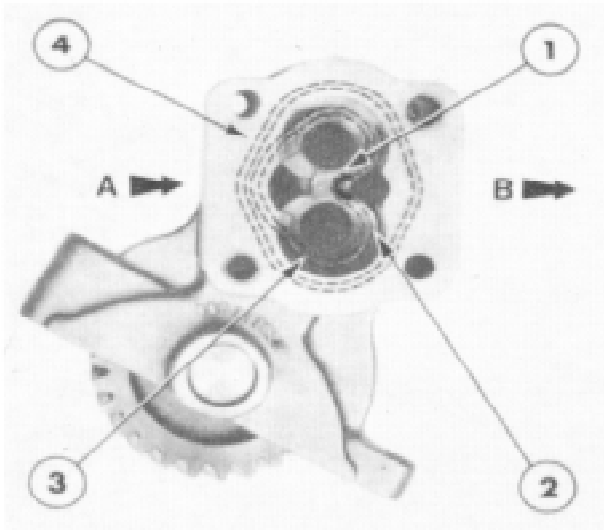

Figure 58
- Coat all seals and "O" rings with petroleum jelly and ensure the pump sealing rings are correctly positioned, Figure 58.